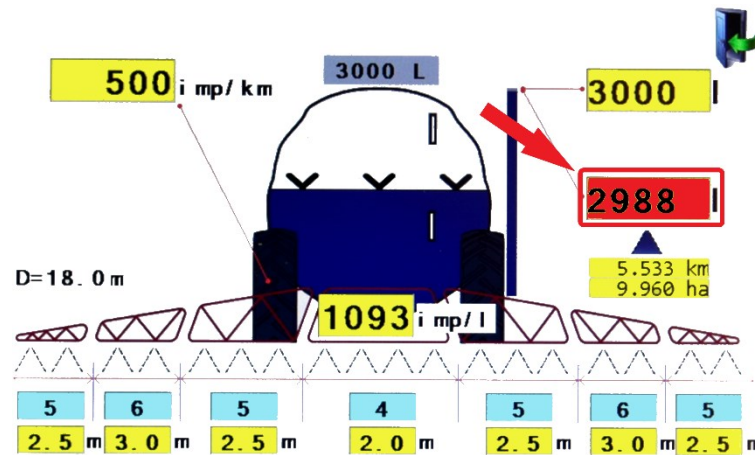

Figure 19
- If the values differ, press the field that shows the current quantity (Figure 19) and enter the reference / actual quantity of the chemical preparation in to the input sub window (Figure 20).